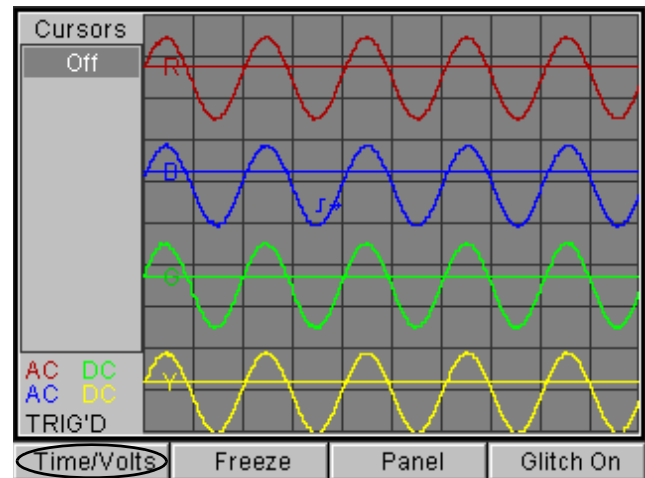

Figure 7.31: Lab Scope Screen, DMM Off - Cursors Pane Displayed
- 2 Display the Cursors pane by repeatedly pressing the **Trigger-Cursors-Time/Volts** function key until the label is "Time/Volts" and the Cursors pane is displayed, as shown in Figure 7.31.